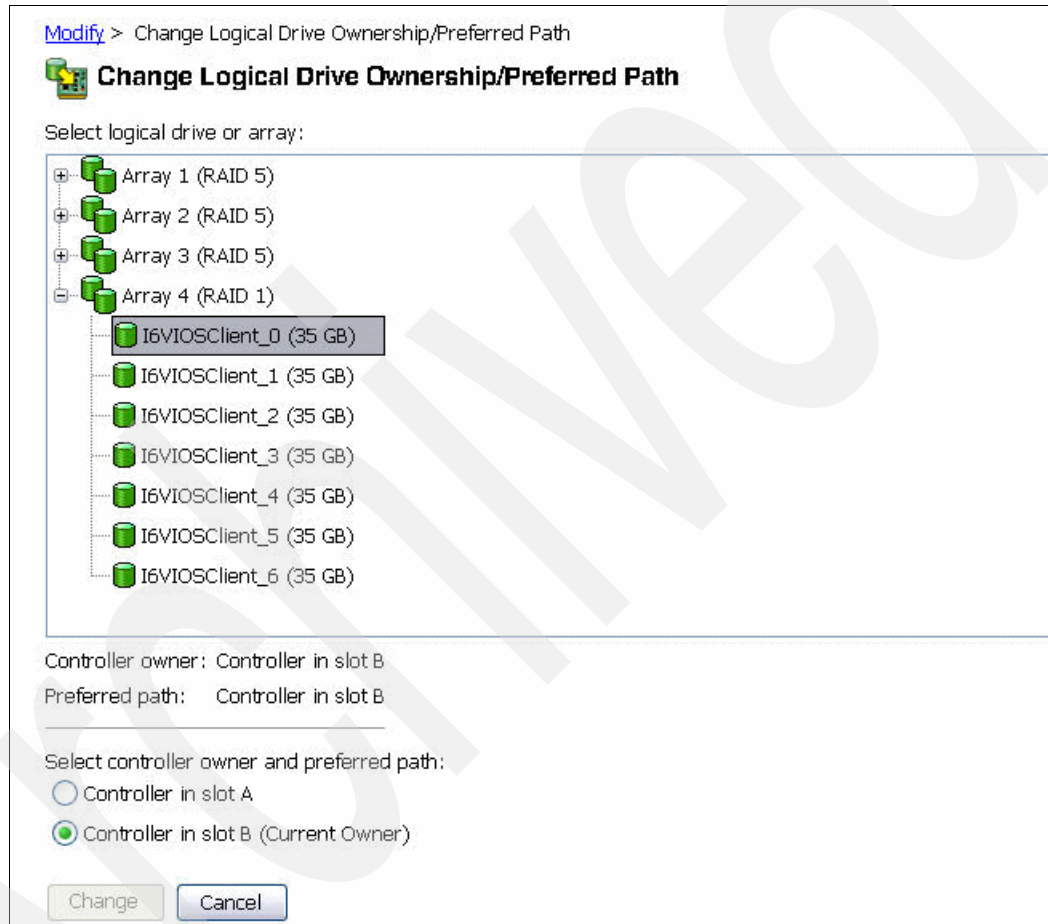

Figure 7-35 Controller ownership and preferred path
1. We use the tab Modify → Change Local Drive Ownership/Preferred Path. In the Change Local Drive Ownership/Preferred Path window we expand the array of logical drives that we created and click each of them to see controller ownership and preferred path, as shown in Figure 7-35.